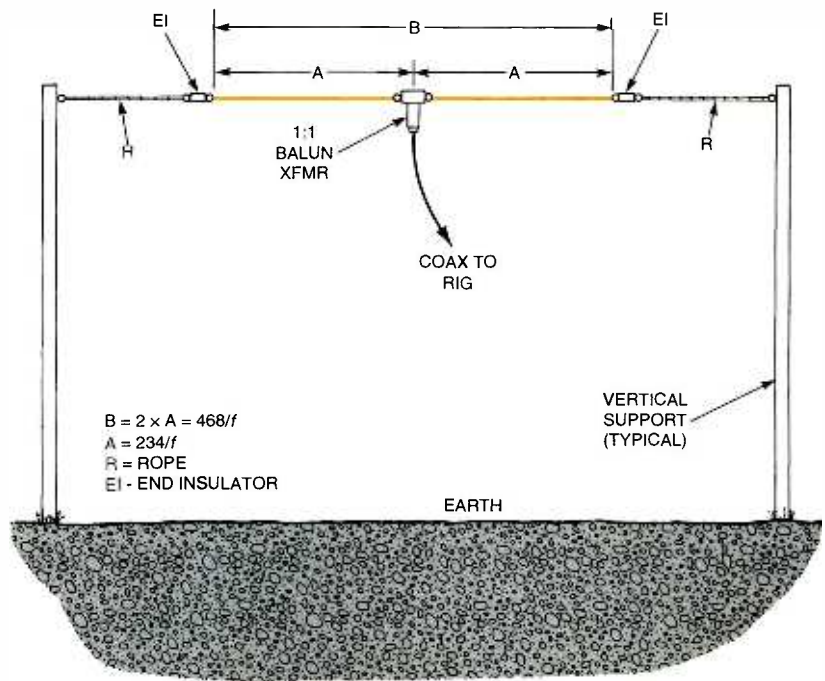

Fig. 1. Illustration showing how simple it is to erect a dipole antenna.
Figure 1 shows the basic form of a dipole antenna. It consists of two quarter-wavelength radiator elements ("A" in Fig. 1) connected as an overall half wavelength radiator ("B" in Fig. 1) fed in the center. The total length (L in feet) for a half wavelength ($\lambda/2$) antenna operating at a frequency (f in MHz) is found from:
Unfortunately, this equation only holds for a perfect, self-supporting antenna in free space, which none of us ever sees. Because of the "End Effect" caused by the dielectric end insulators ("EI" in Fig. 1), and the velocity factor (V) of the wire used for the elements, the actual length is several percent shorter. A first-order approximation
The wire elements are supported from some type of vertical structure (a mast, a tree, or the wall/roof of a building) by a length of rope ("R" in Fig. 1). Don't use just any old rope. I've used standard $3/16$ -inch and $1/4$ -inch cotton clothesline, and it did not last long. I prefer the same size rope in nylon or some other strong synthetic material. Also, the nylon is a better insulator after being wet, because it does not absorb moisture like cotton (and dries out a lot faster).